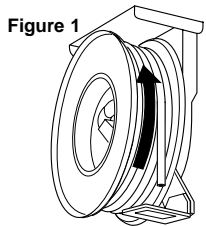

Figure 1
5. Wind the hose onto the reel spool by hand rotating spool in direction it turns free of spring tension. (Normally clockwise when viewed from spring side) See fig. 1.